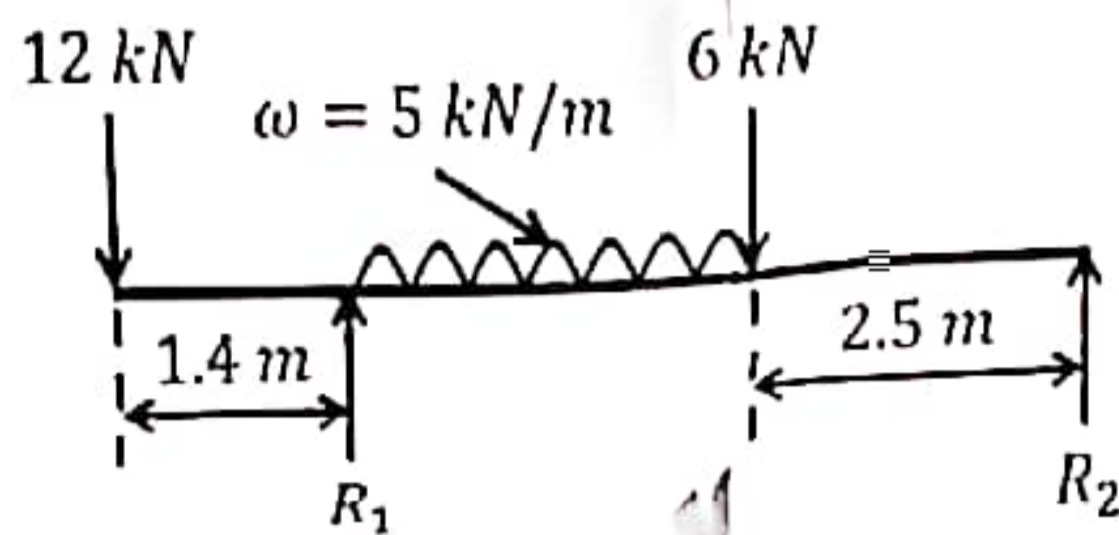

Fig Q7
7. A 7.8 m long beam is simply supported beam and loaded as shown in Fig Q7.